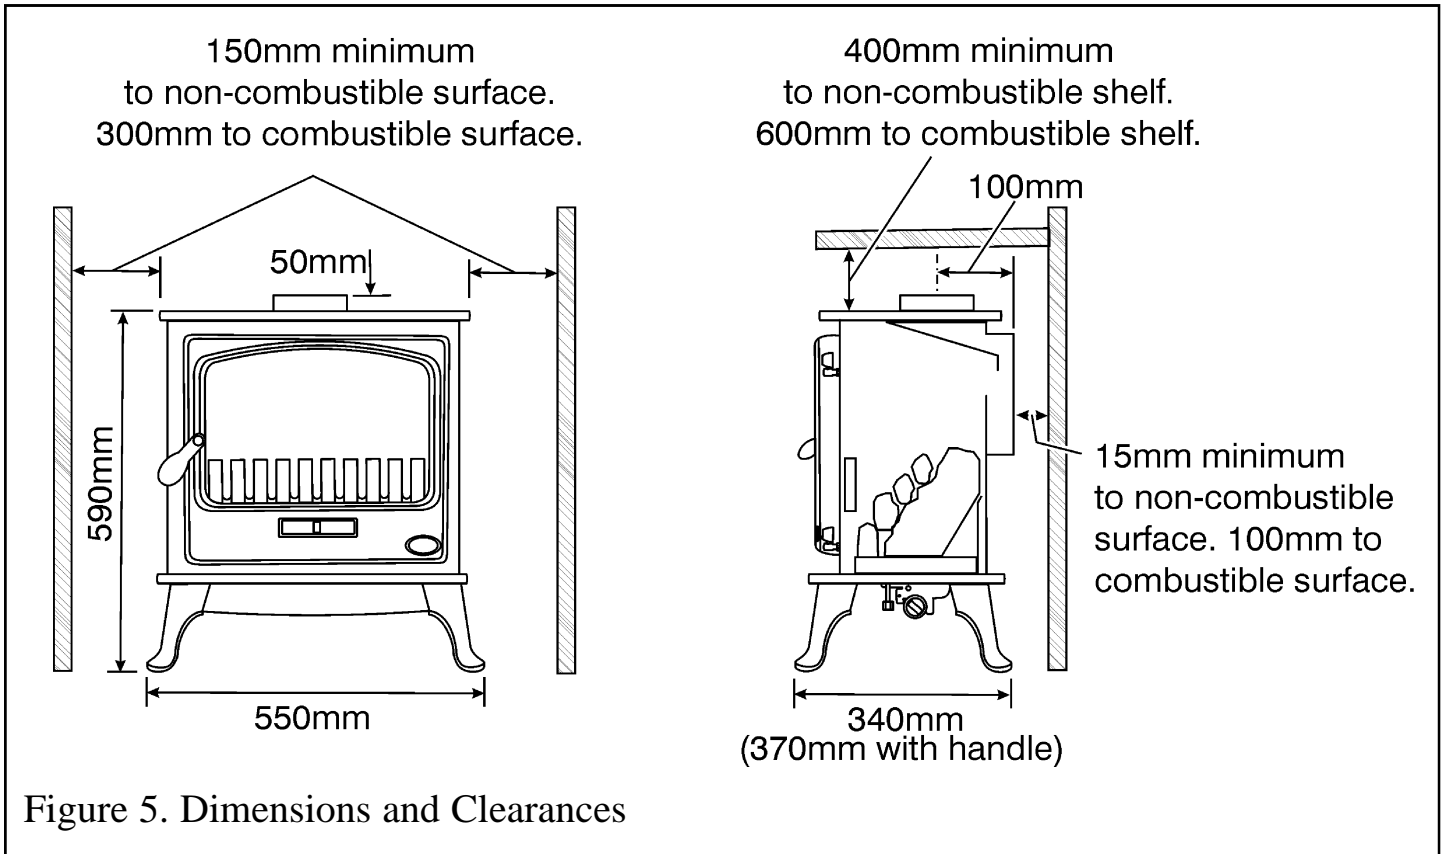

Figure 5. Dimensions and Clearances
- Clearances from combustible and non-combustible materials must be at least those shown in figure 5.